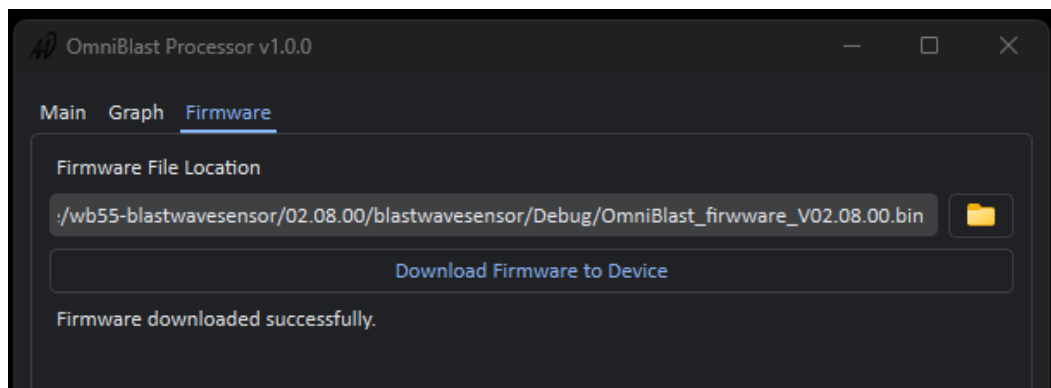

Figure 32. Final Message saying Firmware Downloaded successfully.
- i) After the firmware has successfully been downloaded, the message will say “Firmware downloaded successfully” (**Figure 32**).